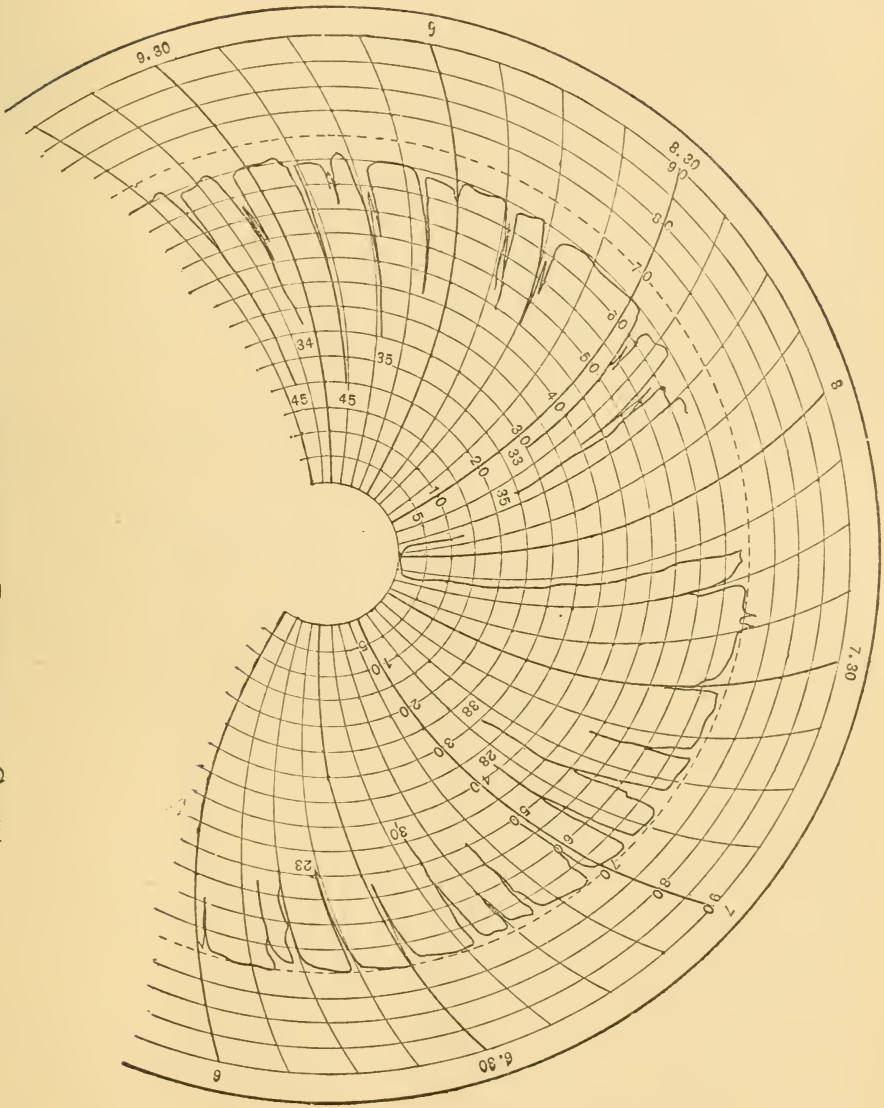
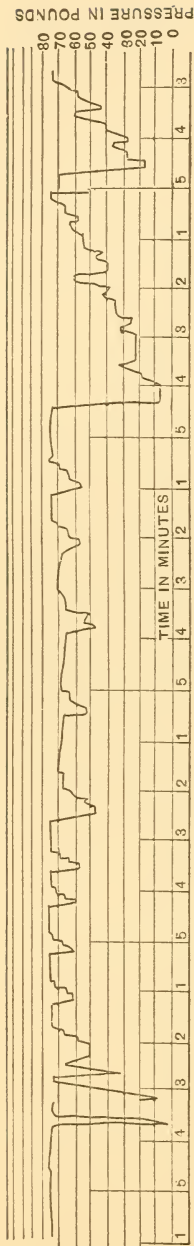

FIG. 82.—REVOLVING RECORDING GAGE.
FIG. 83.—HORIZONTAL RECORDING GAGE.
A. Two; a revolving gage, the chart of which is shown in Fig. 82, and a horizontal gage, a chart from which is shown in Fig. 83.
In Fig. 82, the broken line shows the path the pen would trace if there was a constant pressure of 70 pounds. No pressure is represented by the circumference of the small circle.
The distance between the lines running up and down represent the distance traveled by the train. The chart (Fig. 82) shows two records on the same run made by two different men. A study of the two shows several points of interest.
Fig. 83 shows a record taken from a horizontal recording gage.